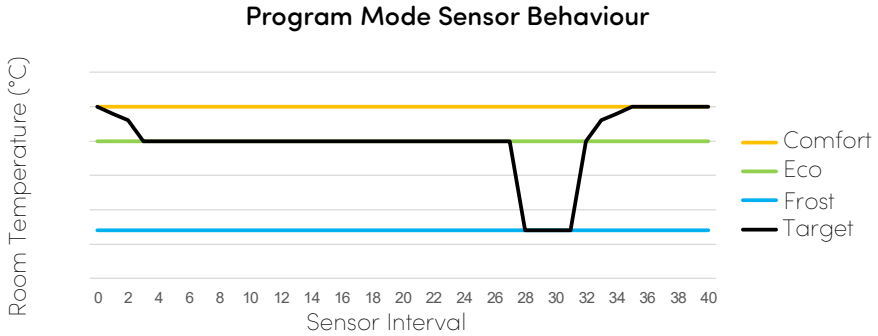

Figure 8 | Sensor changes to target temperature while in program mode
- If no presence is detected during the sensor interval, the target temperature is reduced according to the graph in **Figure 8**.
- When a presence is detected during the set interval, the radiator will increase temperature according to the graph in **Figure 8**.